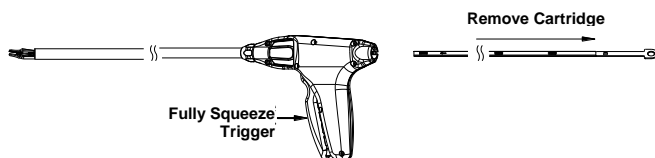

Fig. 4
1. Remove and discard the disposable clip cartridge by fully squeezing the trigger against the handle as shown on Fig.4. If all 19 clips have not been fired, squeezing the handle and removing the cartridge will engage and release one clip. In this case, make sure to fire the engaged clip onto something such as a drape so that the contaminated clip does not fall onto the floor, stick to the jaws or fall inside the instrument shaft potentially causing a jam or safety hazard.